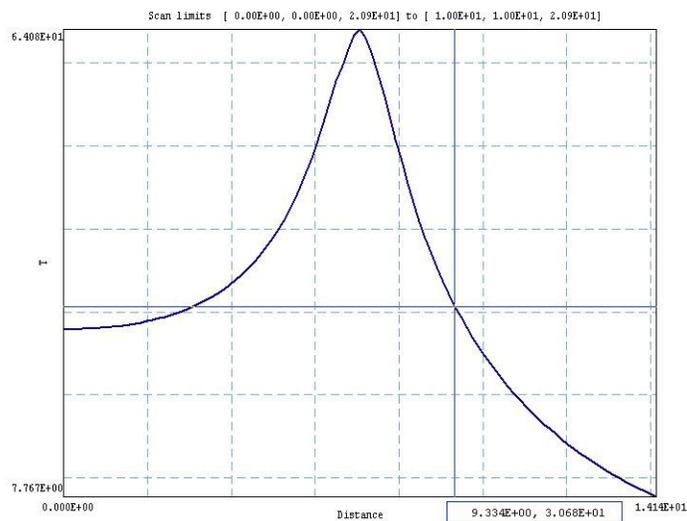

Figure 7: Scan plot in the oscilloscope mode.
4. Next move the mouse to the position $(x = 10.0, y = 10.0)$ and click the left button. The program computes 100 values along the scan line, enters the scan menu and creates the plot shown of Fig. 7.